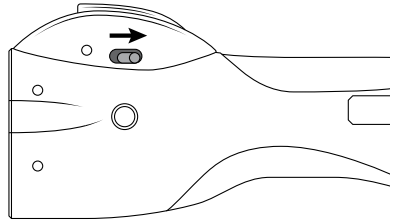

Fig 1
**1. PLACE THE MOBILE™ IN SAFE MODE** - Slide the safety back towards the rear of the launcher. (Fig 1)